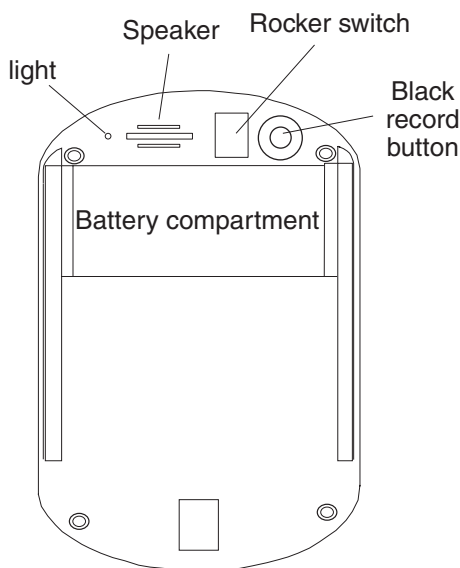

Figure 9
Your TABS Voice+ or Professional monitor (**Figure 9**) has audio recording capability. You can record a message up to 10 seconds in length.
2. Push down the black record button and hold it down until you are finished recording. The light will be on during this time indicating the monitor is recording (**Figure 9**).